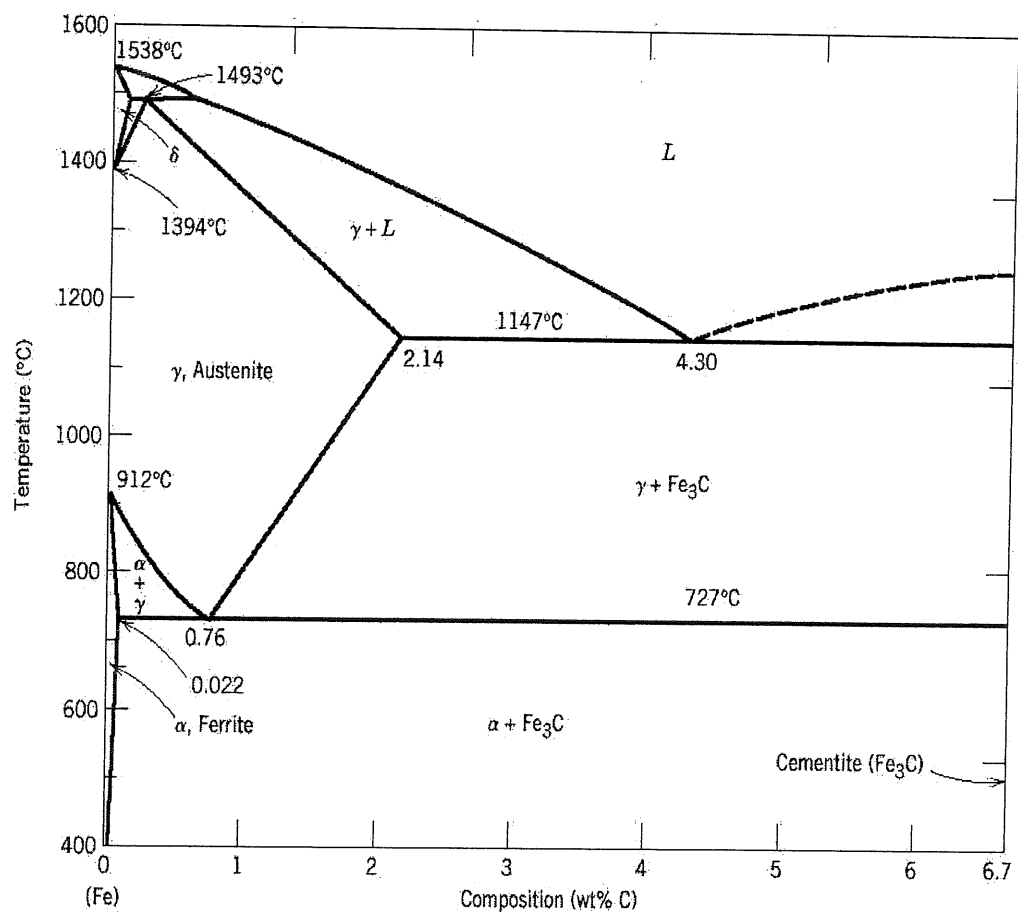

Figure 3
- c) Based on Figure 3, determine: